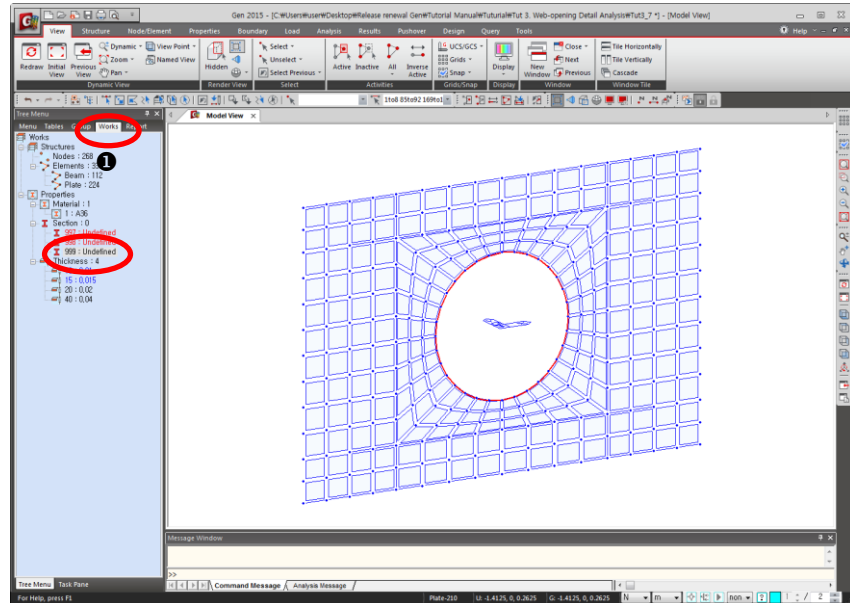

Figure 3.10 Section selection using Works Tree
3. Select the *Works* tab(Fig.3.10–①).